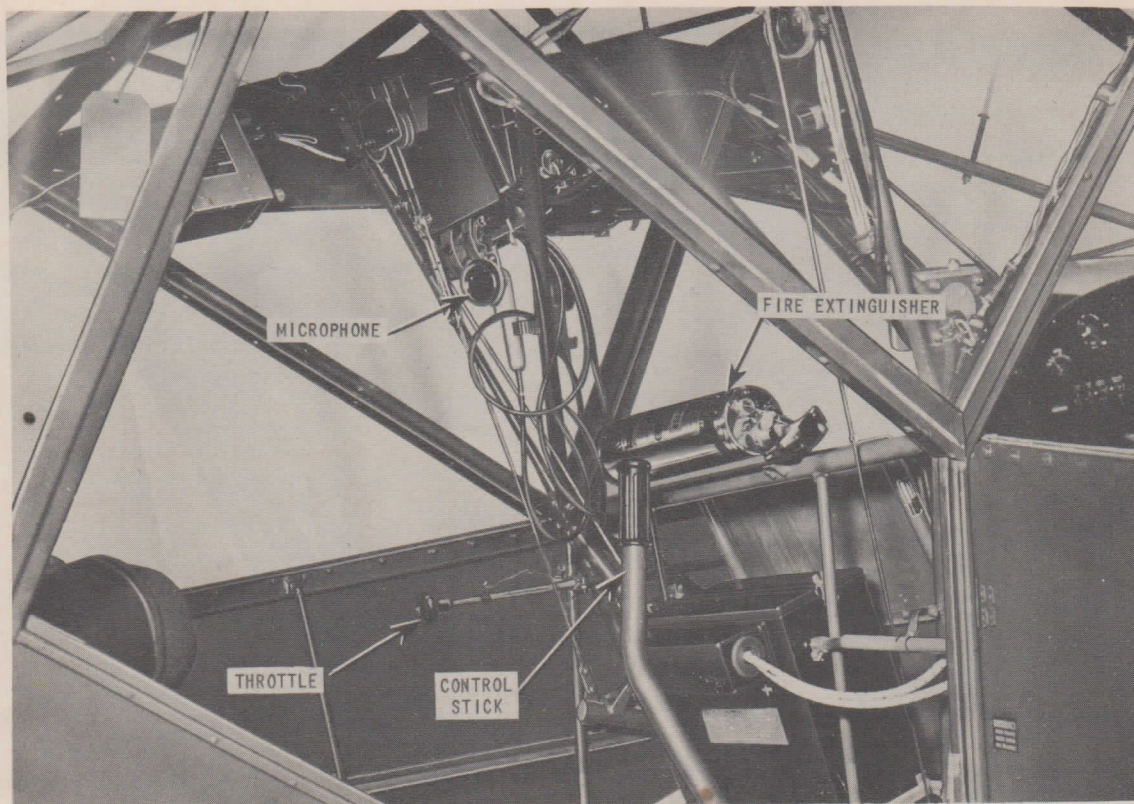

Figure 8 - Observer's Cockpit Arrangement and Controls
(10) **OBSERVER'S SEAT.** - The observer's seat is of the fixed stool type and accommodates a seat-pack parachute. (See figure 8.)